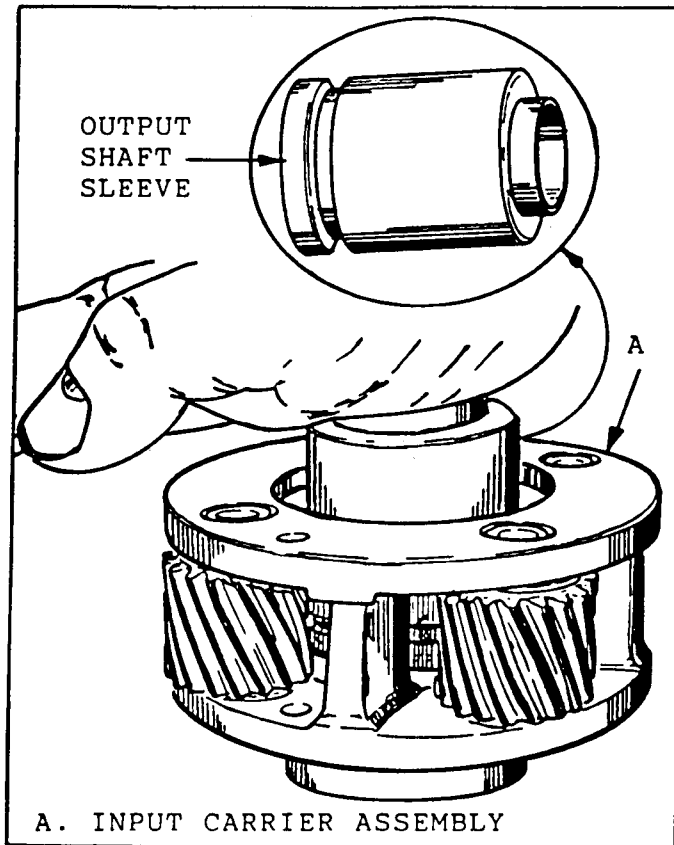

Figure 85
- To check the trapped thrust bearings in the carriers for wear, place a bushing or output shaft sleeve on the bearing race, as shown in Figure 85. (Do not contact the pinion gears). Turn it with the palm of your hand, any imperfections will be felt through the sleeve.
- 0 Input carrier trapped thrust bearing as shown in Figure 85, on Page 54.